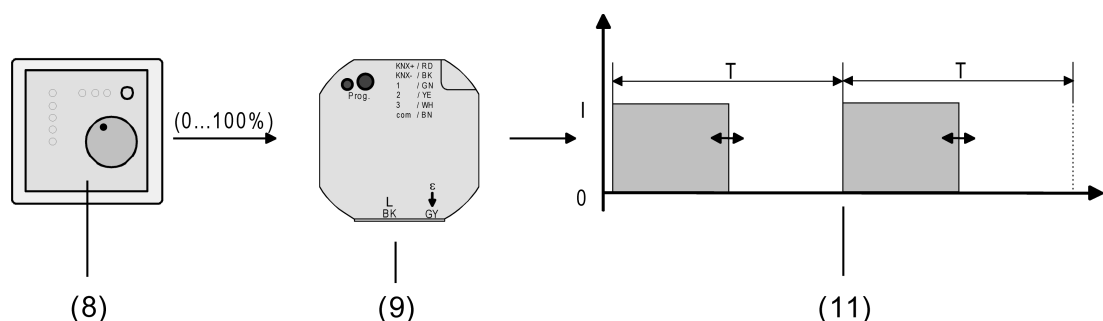

Figure 15: Command value principle for constant command value
- (8) Room temperature controller (command value "1-bit")
- (9) Heating actuator
- (10) Switching output signal for valve drives
In normal operation, the value telegram received via the 1-byte "Command value" object is converted by the device into an equivalent pulse width modulated switching signal at the valve outputs (Figure 15). Taking the cycle time (T) settable in the device into account, the average output signal resulting from this modulation is a measure of the centred valve position of the control valve and thus a reference for the set room temperature (see "Pulse width modulation for constant command values and constant valve setpoint positions").